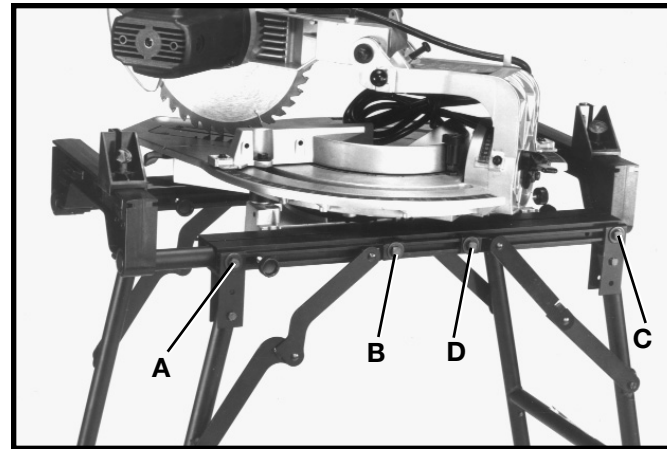

Fig. 72
When assembling the stand to the saw, reverse the instructions listed in the section “**REMOVING SAW FROM STAND**” and keep in mind that the distance between the center of screw (A) Fig. 72, and bent hinge screw (B) **MUST BE 8”** and the distance between the center of screw (C) and straight hinge screw (D) **MUST BE 8-1/2”**.